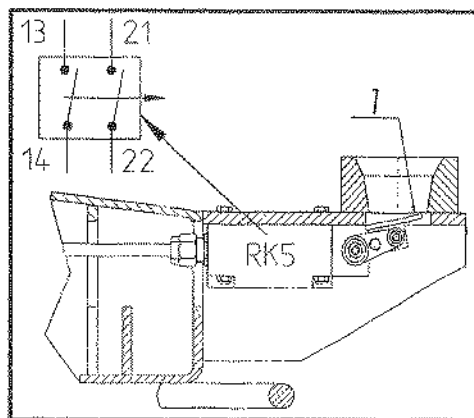

Figure 18-2
2. The limit switch lever should now be in position 1 (figure 18-2). In this position points 13-14 and 21-22 of the limit switch should be open. This limit switch position prevents the use of the outriggers, driving and steering when the booms are used, as well as the power consumption of the outrigger check valves.